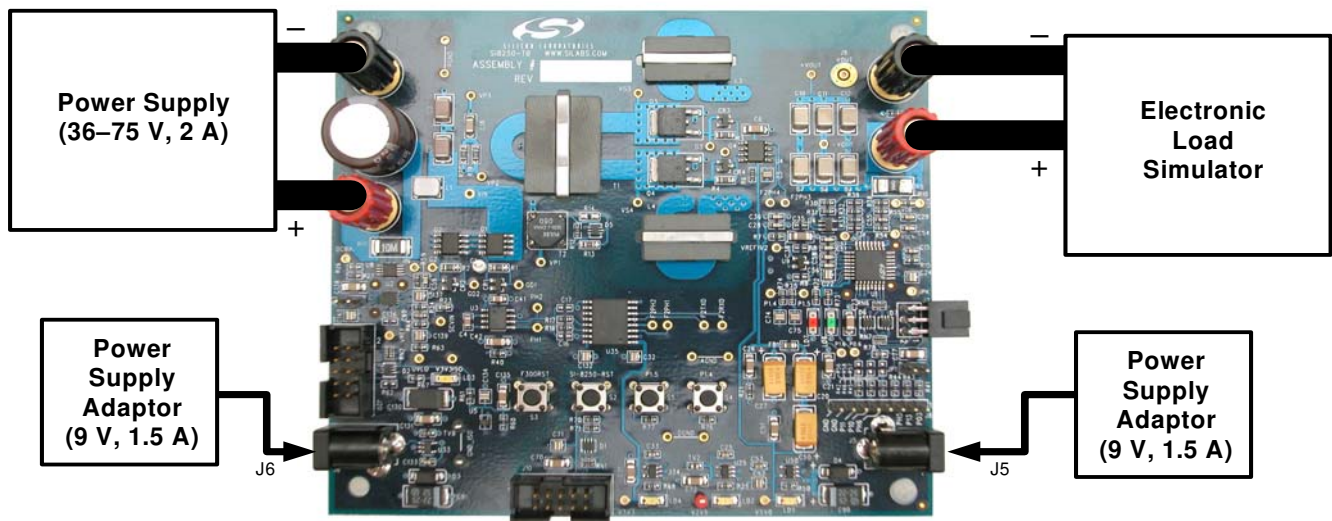

Figure 2. Board Power Configuration
1. Connect the two 9 V, 1.5 A universal power supplies (supplied with the kit) to J5 and J6 as shown in Figure 2. This supply provides bias for the Si8250 and driver ICs.
3. Connect an electronic load simulator or other load to the V_{OUT} terminals as shown in Figure 2.
9. At this point, power can be reapplied to the drivetrain on the Si8250 Target Board. Connect a third external supply (not provided in kit) to the V_{IN} terminals as shown in Figure 2. This supply needs to provide a voltage of between 36–75 V with at least 2 A of current.
10. Connect an electronic load simulator to the V_{OUT} terminals as shown in Figure 2.